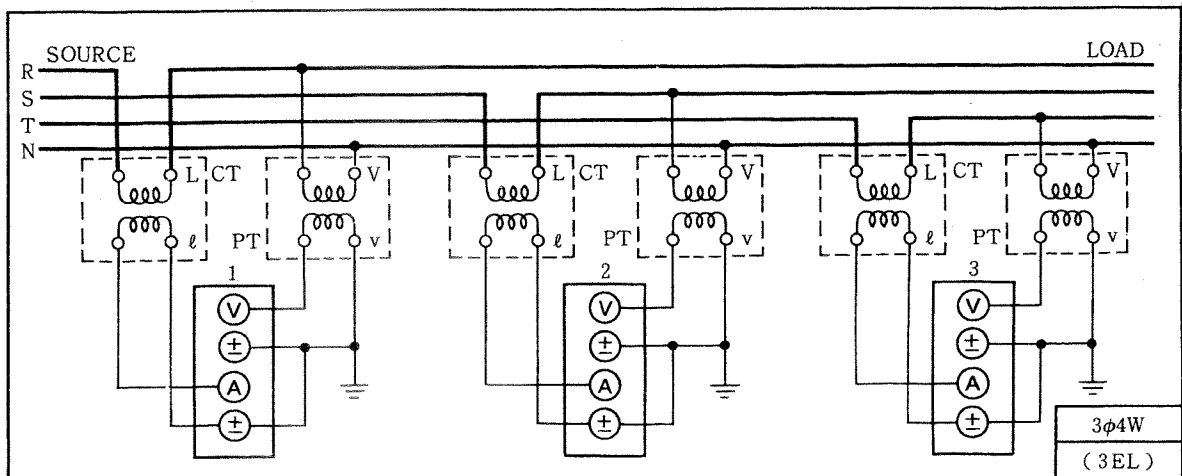

Figure 2-14.
(2) When Both Voltage and Current are Beyond Specified Measurement Ranges
At this time, external potential transformer (PT) and current transformer (CT) are connected as shown in Figure 2-14.